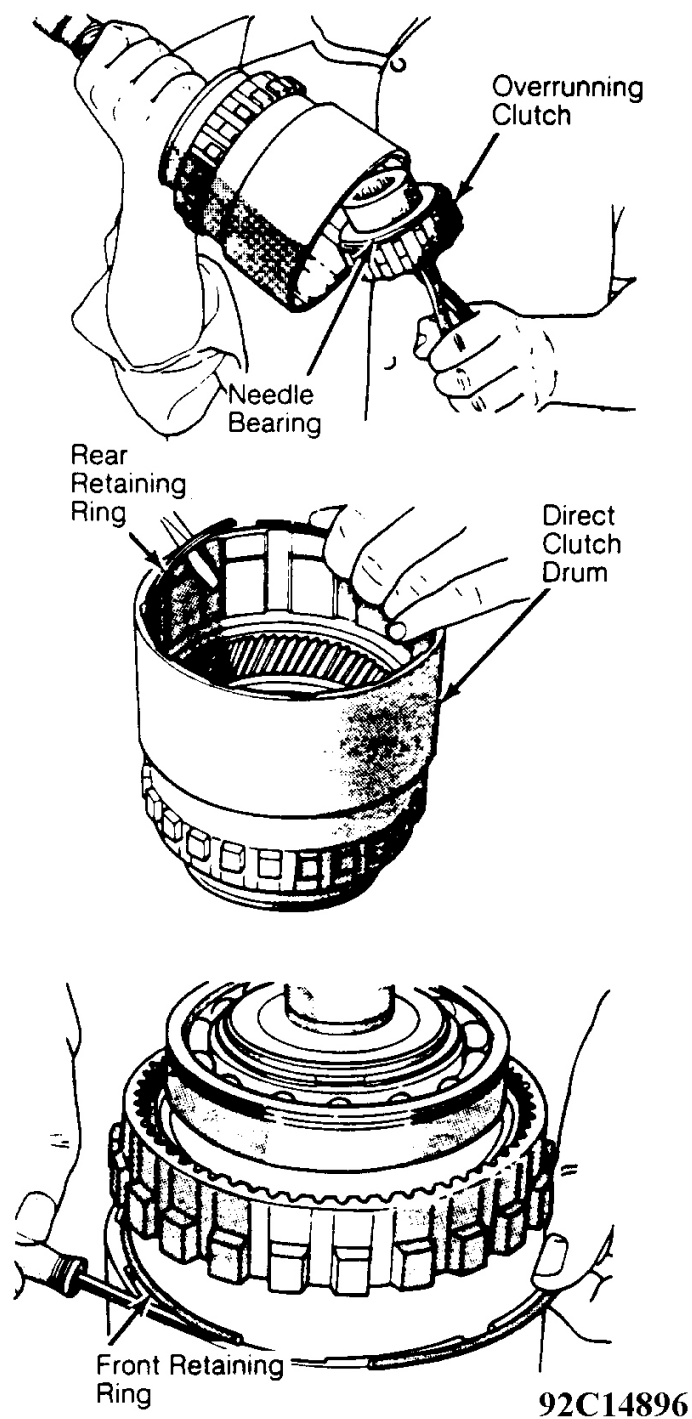

Fig. 21: Disassembling Direct Clutch Drum
8. To remove overrunning clutch, invert assembly and with expanding snap ring pliers, reach into inner splines of the clutch. Remove overrunning clutch intact with a quick counterclockwise twist. See **Fig. 21** .